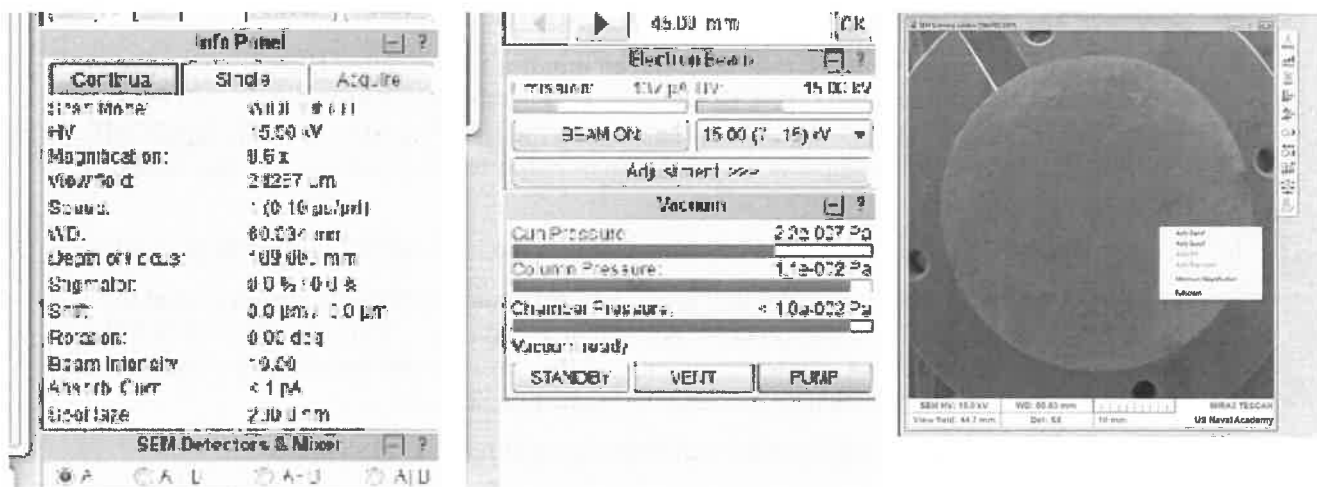

Figure 7. Imaging Setup
g. When ready to start imaging, check the HV setting (in the info panel and normally 10 – 20 keV depending on application), and turn the beam on by clicking BEAM ON. This will open the gun valve and allow the electron beam into the chamber. An image should appear in the SEM scanning window. (Figure7).